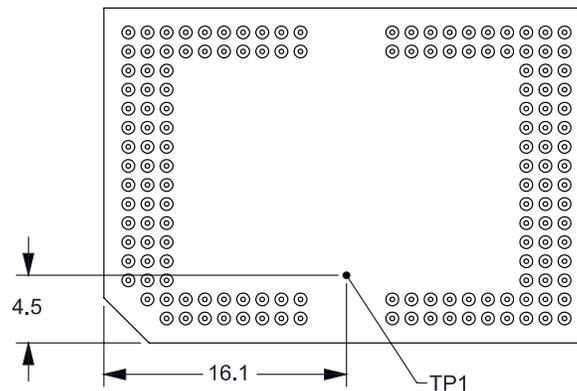

图 7-4. DMD Thermal Test Points
Relationship between array temperature and the reference ceramic temperature (thermocouple location TP1 in 图 7-4) is provided by the following equations:
- T_{CERAMIC} = measured ceramic temperature, TP1 location in 图 7-4 ($^{\circ}\text{C}$)
- Q_{ARRAY} = total power, electrical plus absorbed, on the DMD array (W)
- $Q_{\text{ELECTRICAL}}$ = nominal electrical power dissipation by the DMD (W)